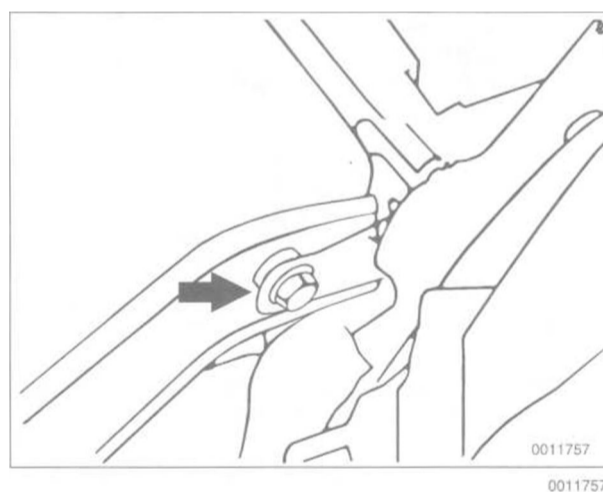

Fig. 20. Backrest lower mounting bolt **(arrow)** Left backrest shown.
3. Remove bolts from lower outside corners of left and/or right backrest. See Fig. 20.